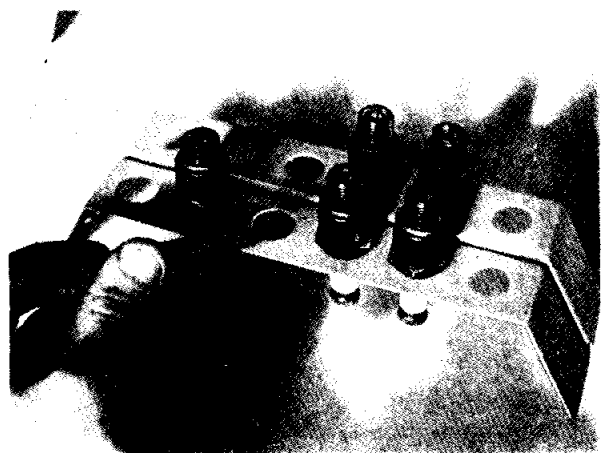

Fig. 46
- (j) New gaskets have been fitted to the plugs and the general improvement in appearance is apparent now that the plugs are ready to be installed in the engine (Fig. 46). It requires no imagination to know that improved engine performance, better petrol consumption and satisfaction will result. The use of the stand (as illustrated) is